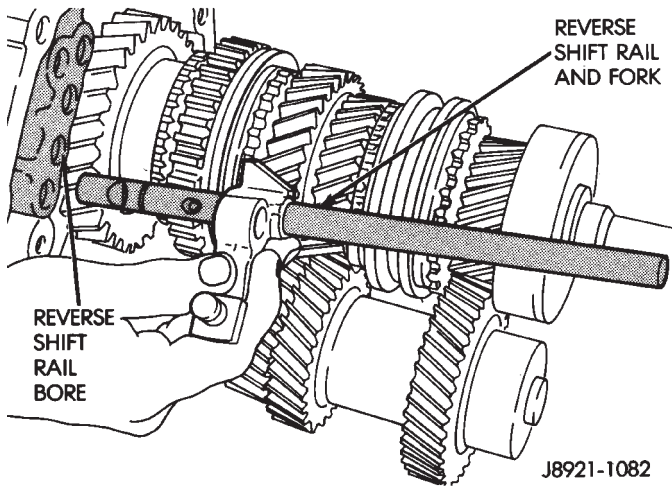

Fig. 52 Reverse Shift Rail And Fork Removal
(13) Remove reverse shift rail and fork (Fig. 52).